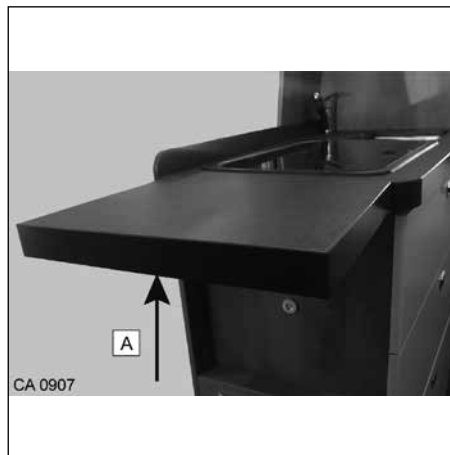

Fig. 35 Worktop extension
- Press lever strip (Fig. 35, Pos. A). Fold down the extension.